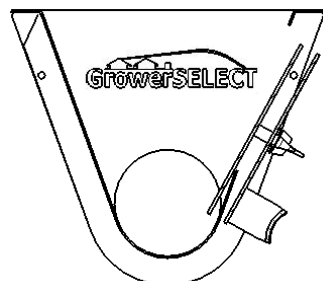

Figure 3
2. Start lower side of access plate in unloader boot opening (Figure 3).